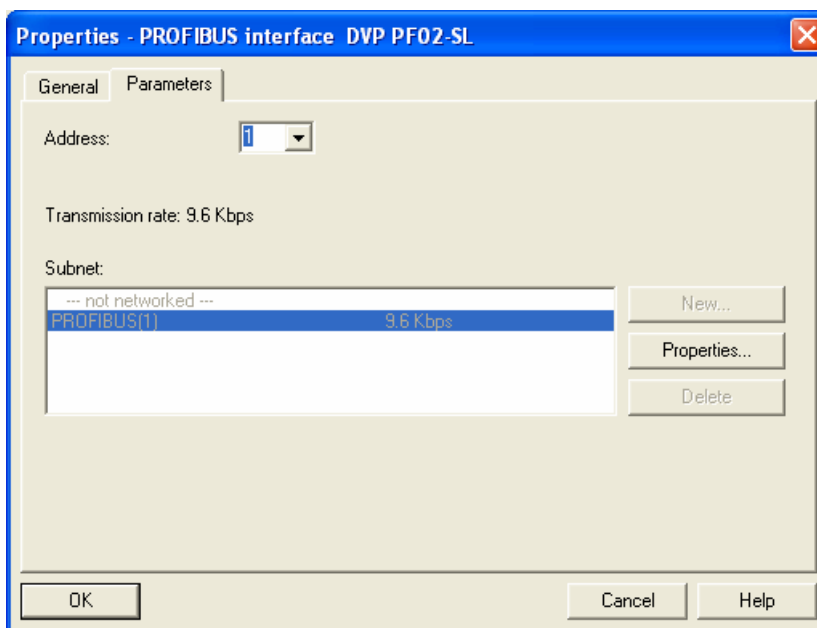

Figure 10-21
2. In this dialog box, select an address for DVPPF00-SL, as Figure 10-21. The address has to be consistent with the address set by the address switch on DVPPF02-SL. Next, click “OK”.